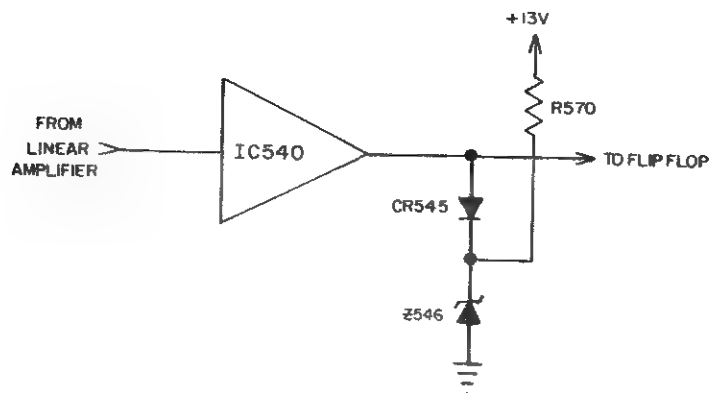

Figure 11. Comparator
4.6 COMPARATOR (see figure 11)